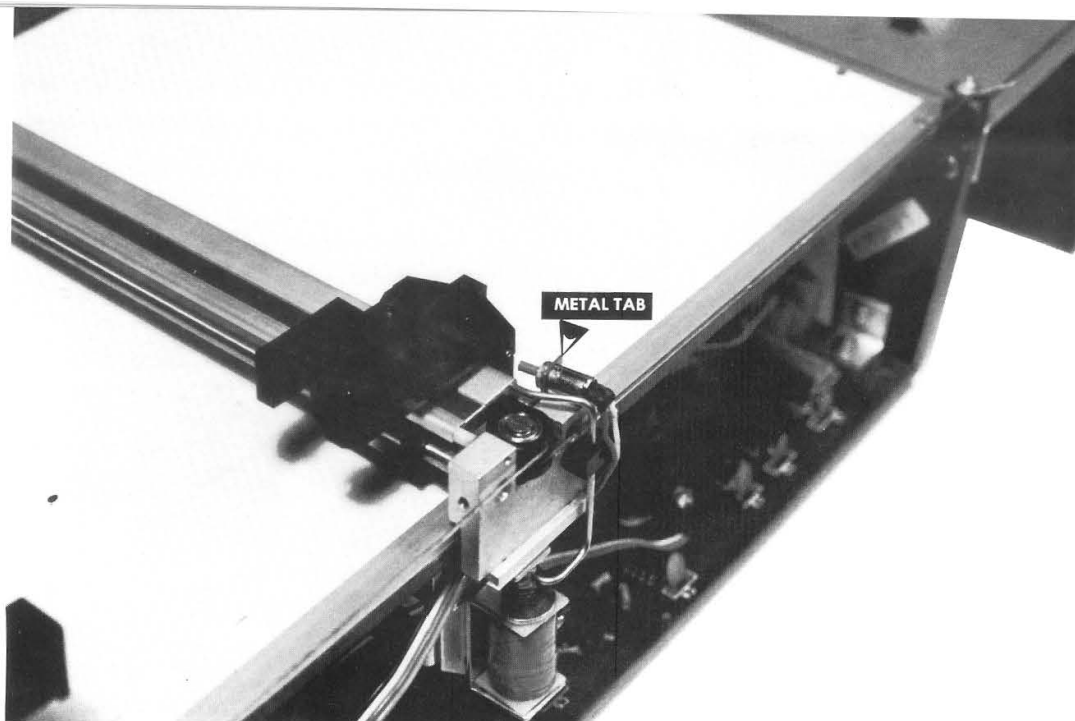

FIGURE 4-4
- 3) Locate the Limit Switch (see Figure 4-4).